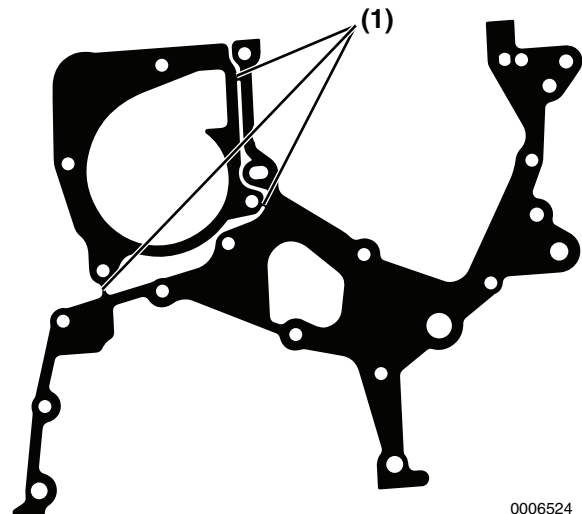

Figure 5-86
12. If the coolant pump has not been removed, cut the gasket at the three tabs (**Figure 5-86, (1)**) and remove timing case cover portion of gasket.